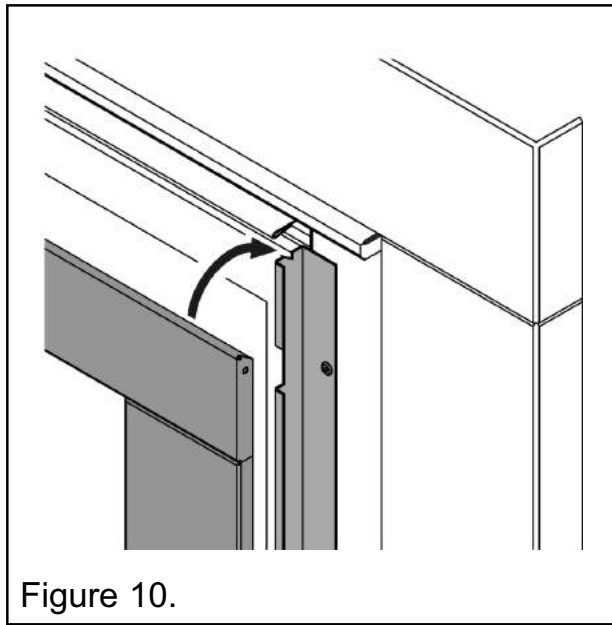

Figure 10.
4. Keeping the lower part of the inner trim clear of the window locate the upper edge into the slots at the top of the window side trims (See figure 10). The inner trim has slots in its rear, ensure that these locate onto the window trim. Lower the inner trim until it is retained by the magnets at the base of the window side trims.